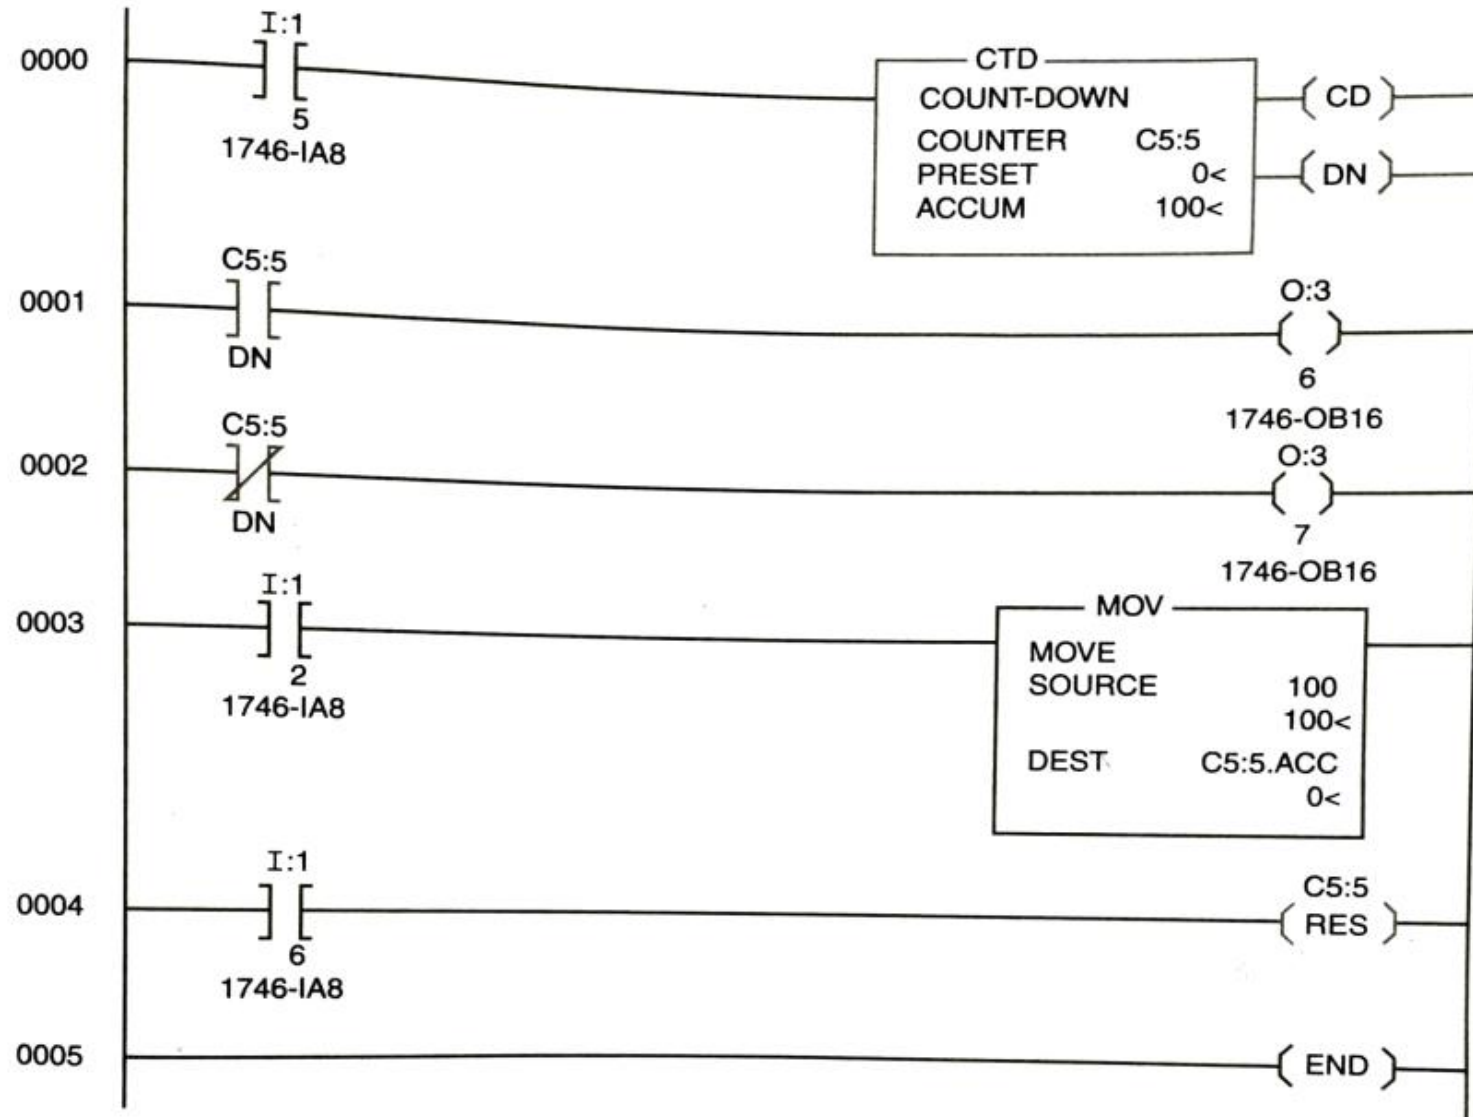

Figure 16-16 RSLogix 5 or 500 count-down counter and its associated status bits.
- The done bit will be set, or on, during the entire count from 100 to 0. If the done bit is programmed as an examine if closed instruction (as on rung 0001 in Figure 16-16), the instruction will be true during the entire count-down sequence.
- If, on the other hand, the done bit was programmed as an examine if open instruction (as on rung 0002 in Figure 16-16), the output would be off, or false, during the count-down cycle. The done bit will change state when the counter's accumulated value transitions from 0 to -1.
- Rung 0004 in Figure 16-16 contains the reset instruction for count-down counter. Resetting the counter will cause the accumulated value to be reset to 0. To replace the accumulated value of 100 back into the counter's accumulator, the move instruction on rung 0003 will be used.